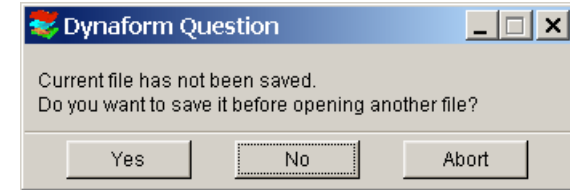

Figure 4.1
- b) Click **No** to deny saving the database (See Figure 4.1)